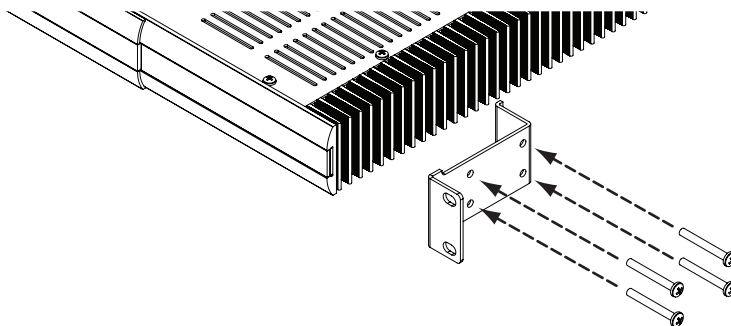

Figure B-2
2. Ensure that the unit is flush with the front of the mounting kit. Install each of the eight screws (included) through the side mounting flanges into the holes in the sides of the unit as shown in *Figure B-2*. Hand tighten screws! Over-tightening could cause damage to the A6 Amplifier.